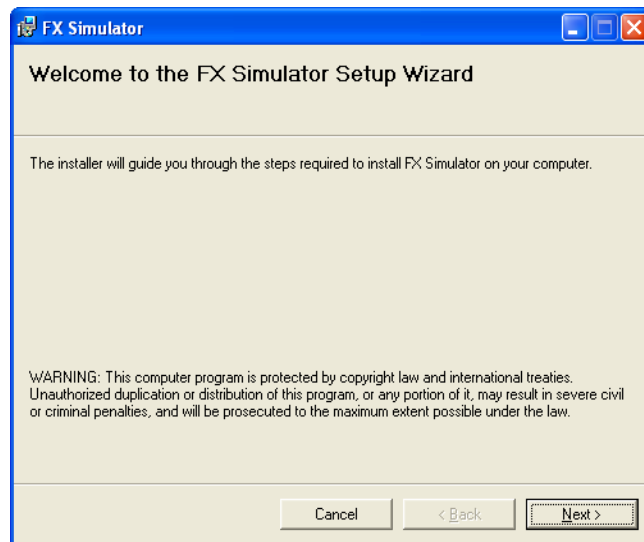

**Figure 12: File Download-Security Warning**
3. From the software menu, click FX Simulator. The File Download - Security Warning window appears (Figure 12) and prompts you to run or save the file.